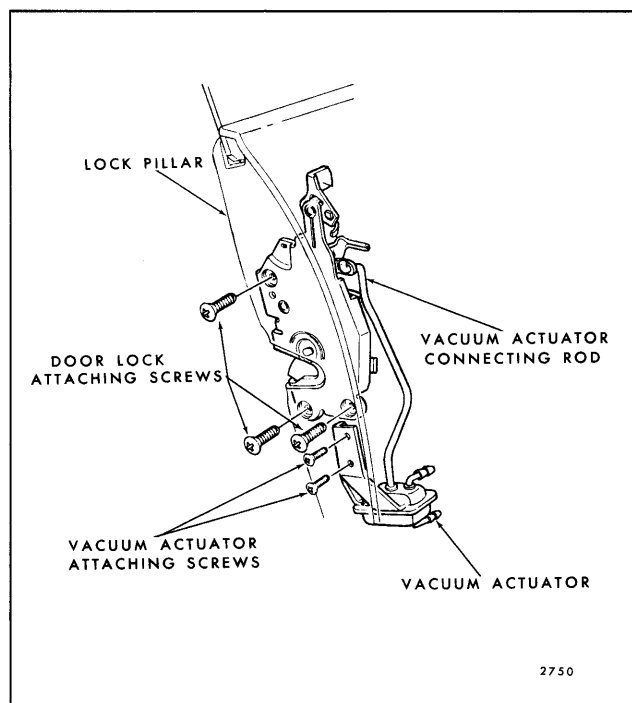

Fig. 6-28—Front Door Vacuum Actuator
3. On front doors, remove vacuum actuator to door lock pillar attaching screws, disconnect rod and remove actuator (Fig. 6-28).